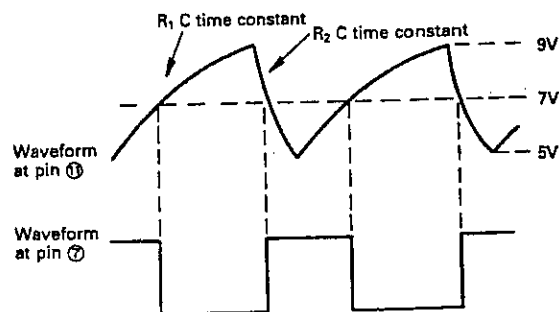

Figure 21-2.
The supply voltage for Schmidt trigger circuit is of 12V (at pin ⑥), and the threshold level of this circuit is set at 9V and 5V. When the supply voltage is higher than 9V, the threshold level goes down to 5V in which the switch (SW) is turned on; when it is lower than 5V, the threshold level goes up to 9V in which the switch is turned off. As a result, there is an oscillation signal at pin ⑪ whose waveform is as shown in Fig. 21-2: the rising edge of oscillation is decided by the time constant of R_1 and C while the falling edge by the time constant of R_2 and C ; the free-run frequency is variable with change of the resistance of R_1 .